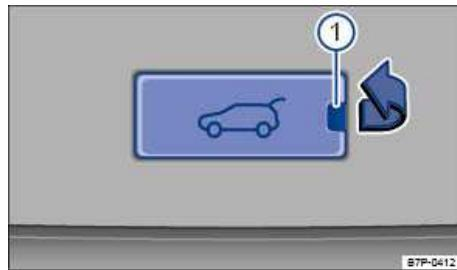

Fig. 331 Inside the luggage compartment: Remove the cover plate in the rear hatch.
- Remove the rectangular cover in the inside trim of the rear hatch by inserting a small screwdriver in the opening ⇒ fig. 331 (1).